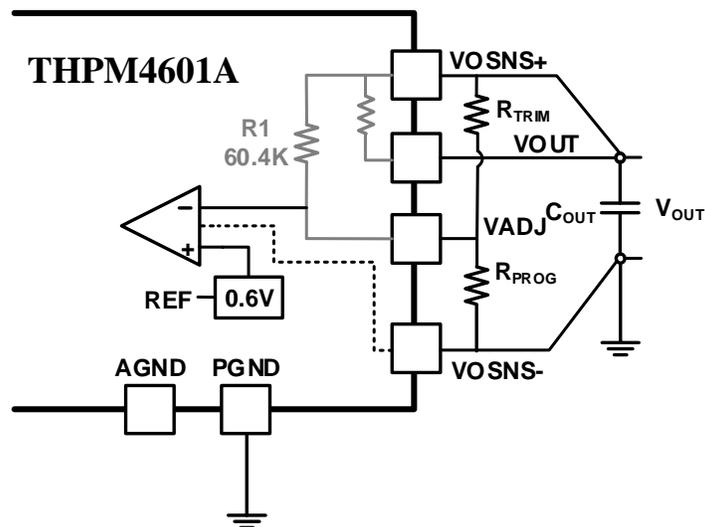

Fig. 2: Output Voltage Trim Circuit
To further improve the set-point accuracy, two resistors can be used in series or in parallel for  $R_{PROG}$  or another  $R_{TRIM}$  resistor can be used between VOSNS+ and VADJ pins as shown Fig. 2. The resulting output voltage after using an optional  $R_{TRIM}$  resistor is given in equation (2).